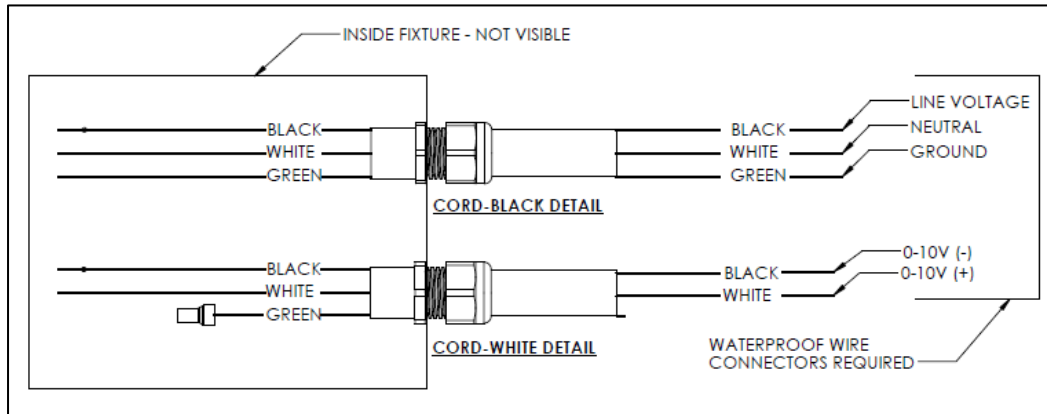
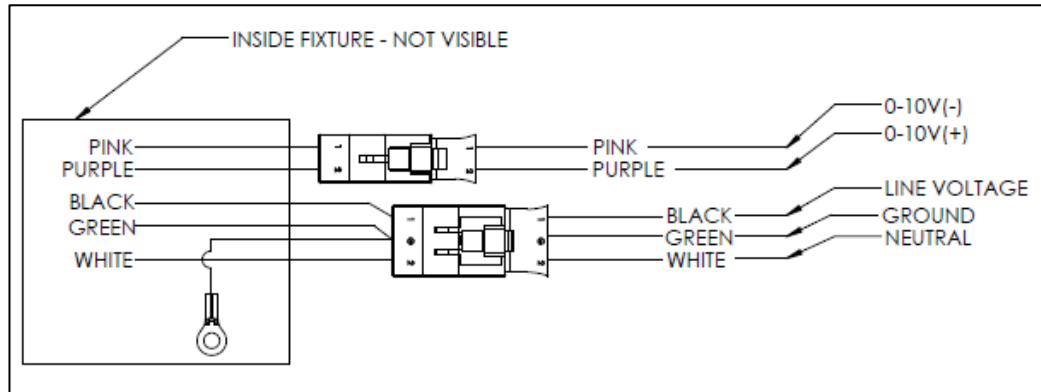

FIG. 6 - C10A WIRE DIAGRAM
FIG. 8 – C1NA WIRE DIAGRAM
4. Raise the fixture and make all electrical connections as per WIRE DIAGRAMS as shown in FIG.6 for wet rated C10A or FIG.8 for indoor/damp rated C1NA in accordance with the national electrical code and applicable local and state code.